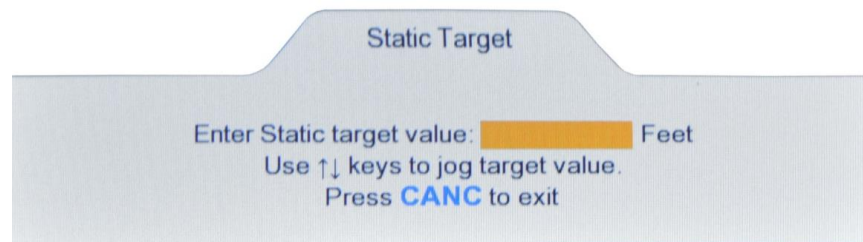
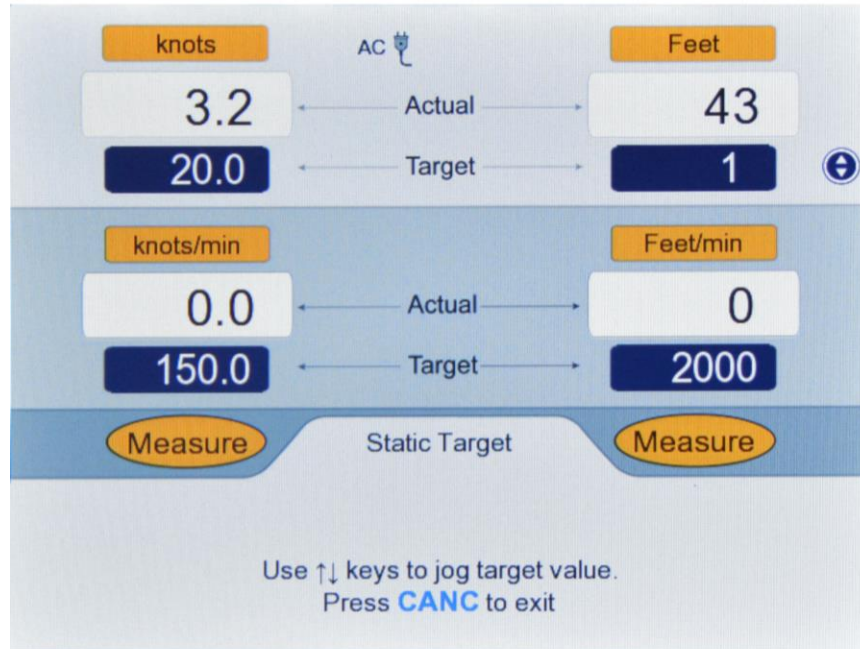

Figure 3.9 : Static Target value
Figure 3.10 : Jog the Static Target value
The Static Target value can be changed only if the key# symbol (6) is displayed to the right of the Static Target value field. Press key '6' on the keypad and the Lower section of the display will appear as shown in Figure 3.9 below.
If the Target value needs to be changed in small increments, instead of entering a value, the arrow keys may be used to Jog the Target value up or down. If the current Static Target value is 0 Feet, and the Lower screen appears as in Figure 3.9 above, pressing the **Up-Arrow** key will make the screen appear as shown in Figure 3.10 below.